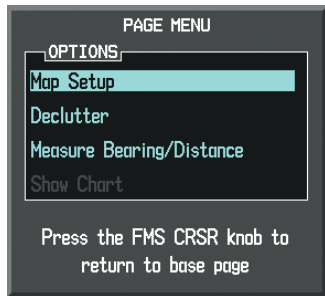

Figure 6-118 Navigation Map Page Menu
- 3) With Map Setup highlighted, press the **ENT** Key (Figure 6-118).